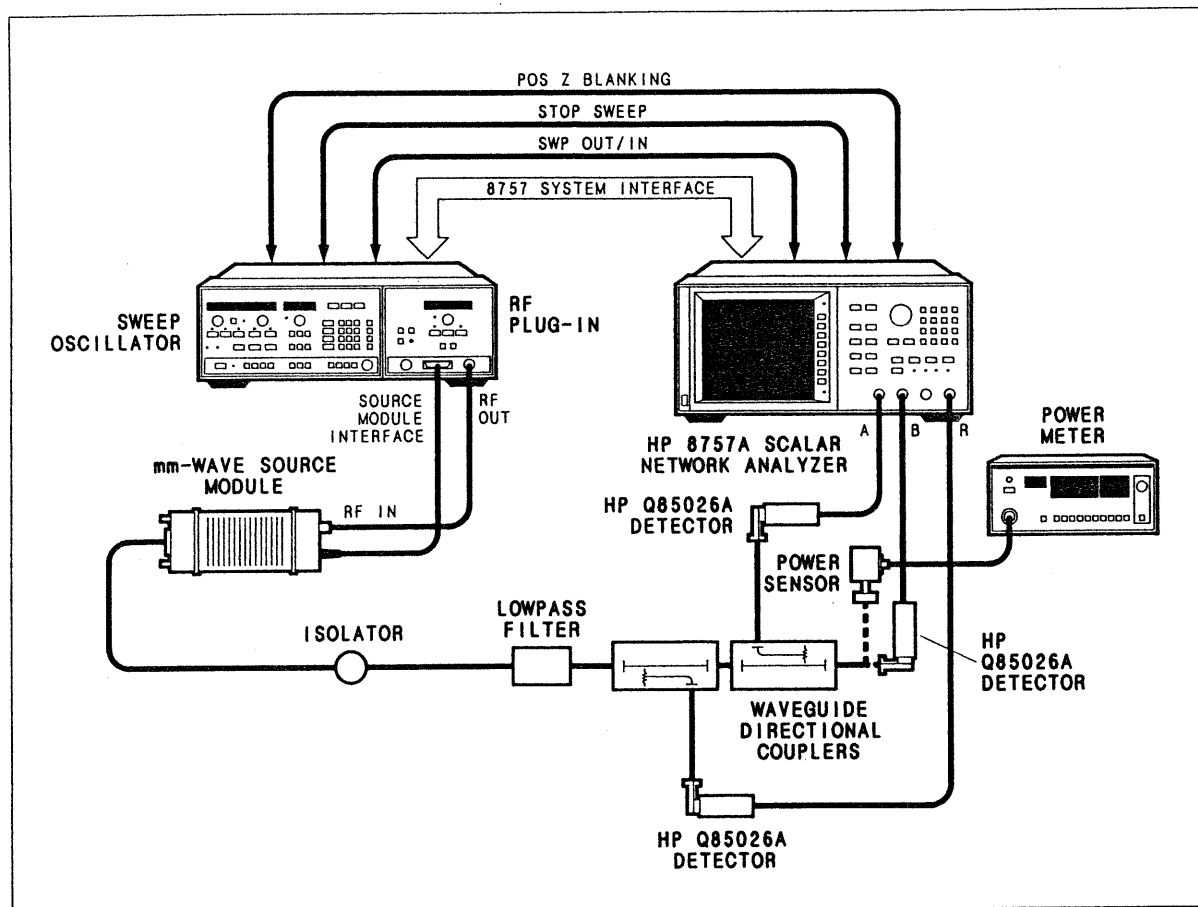

Figure 3-2. Flatness Performance Test Setup
1. Connect equipment as shown in Figure 3-2 with the power sensor connected to the coupler and allow the equipment to warm up for 30 minutes.
13. Disconnect the power sensor from the coupler. Connect the HP Q85026A detector as shown in Figure 3-2.